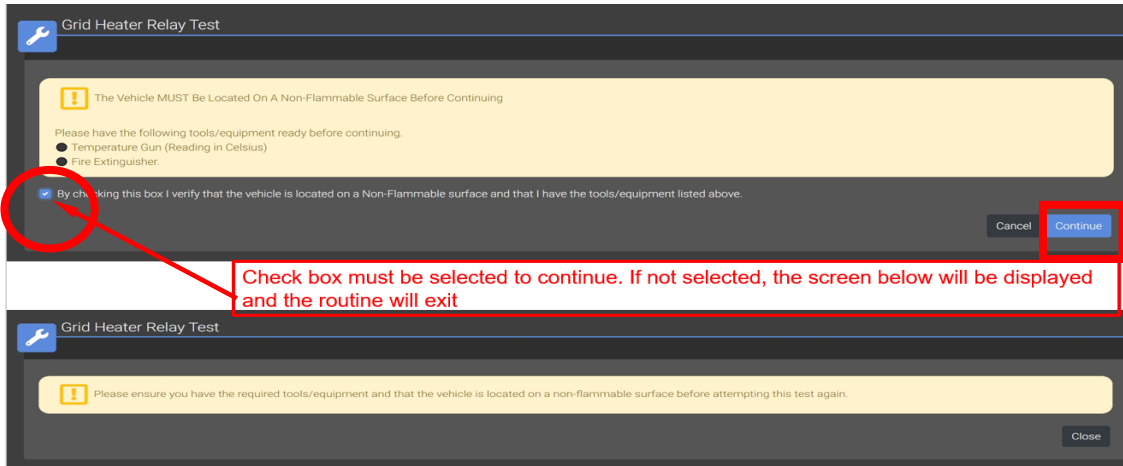

Figure 2 – Check Box
11. Place check mark in box then select “Continue” (Figure 2).